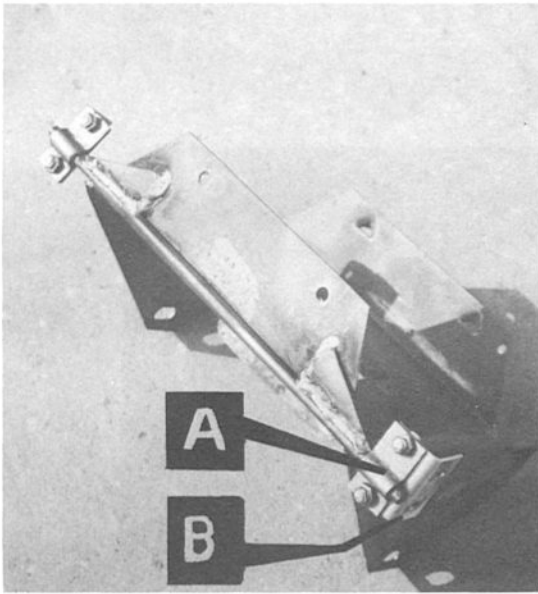

Figure 1
A. Attach the Battery Mount to the Tractor. The new Battery Mount, shown in Figure 1, has a larger-diameter rod (1/4-inch) which is secured by welded gussets.
B. Two Hinge Assemblies are required. To complete each assembly, attach the Hinge, A in Figure 1, to the Pivot Plate, B in Figure 1, by the bolts and lock nuts provided. Be sure the slotted portion of the Pivot Plate faces outward. Slip the completed assemblies onto the rod as shown in Figure 1.